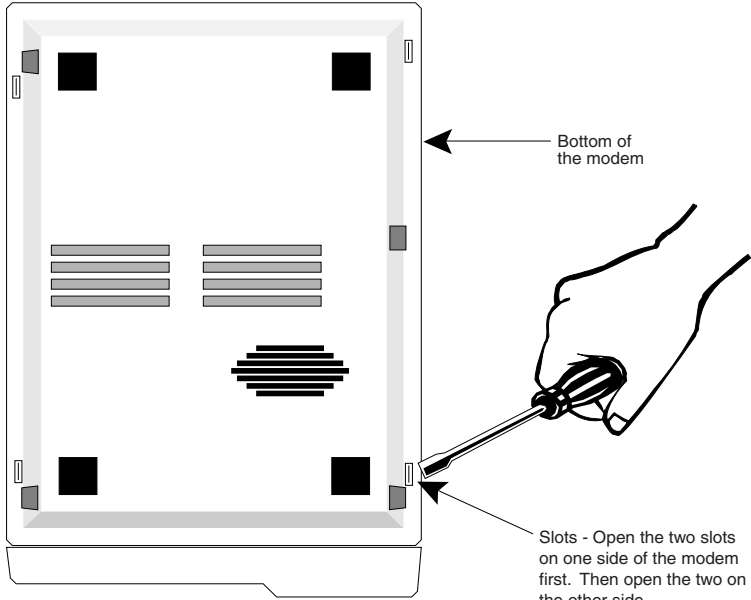

Figure C-1. Cover Removal
- 2) To disengage the cover's locks from the base of the modem, insert a medium size flat screwdriver blade in one of the slots as illustrated in Figure C-1. **DO NOT PUSH** the screwdriver, but pry the lock open by applying pressure toward the unit.